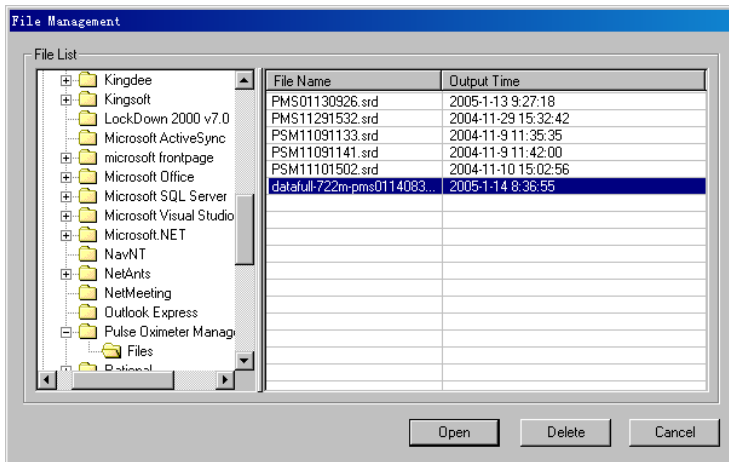

Figure 7-16 File Management
1. Click <File Management> from the <File> menu, the “File Management” dialogue box will pop up as shown in Figure 7-16.